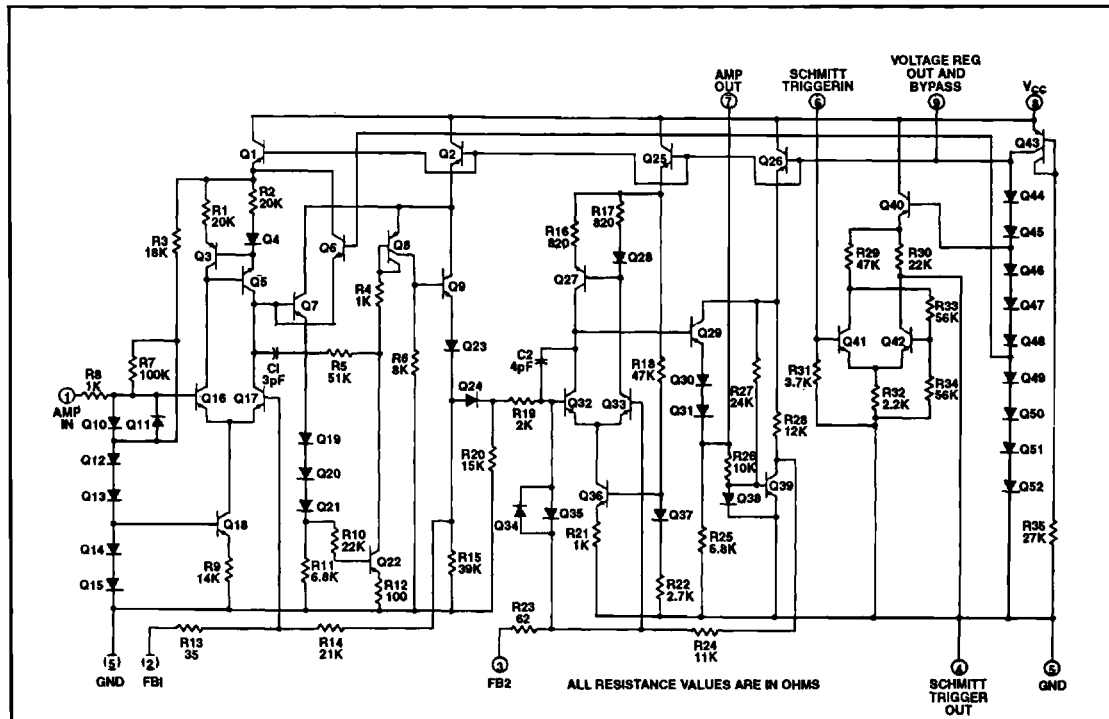
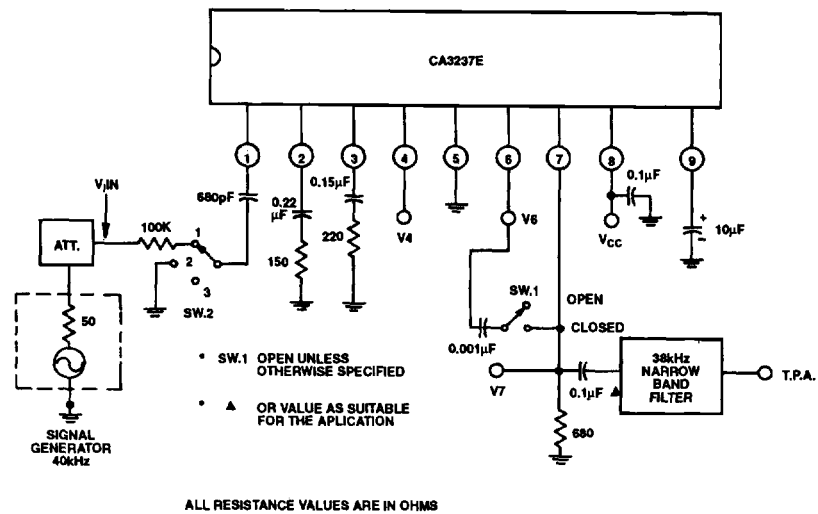

FIGURE 1. SCHEMATIC DIAGRAM FOR CA3237
FIGURE 2. TEST CIRCUIT FOR CA3237
Electrical Specifications $T_A = +25^\circ\text{C}$, $V_{CC} = 12\text{V}$, Unless Otherwise Specified. See Figure 2 for Test Circuit
The CA3237 is intended for use in an infrared (IR) remote-control receiver or other comparable application. As shown in Figure 1, this IC consists of two cascaded amplifiers, a Schmitt-trigger circuit, and an internal 6.3-volt regulator. The VCC power-supply input may range from 8 to 14 volts.
For the feedback circuit values in the test circuit of Figure 2, the simplified gain equation may be used to calculate the first stage gain as follows:
The worst-case conditions allow for Z_{in} and A_{OL} variations. The gain specification from the Electrical Characteristic table is 0.8V for 500 μ V input. This specification dictates a minimum gain of 1600 (or 64dB) minimum, including input attenuation losses due to the 100-kilohm source resistor. The Figure 2 circuit is specified as a test condition, but is not a limited use of the CA3237. Using circuit layout care and some shielding, it is possible to achieve over 90dB of stable gain.
If the source impedance of the signal source is high compared to the input impedance of the amplifier, there will be a proportional attenuation at the input signal. For the Figure 2 test circuit, the source impedance is 100 kilohm and the input loss is typically 9dB.
The output drive signal from the second amplifier (at pin 7) is from the emitter follower Q29 and series Q30 and Q31, shown in Figure 1. As shown in the test circuit of Figure 2, it is possible to stiffen the source impedance by additional dc loading at pin 7. It is recommended that the output load be greater than 500 Ω .
The amplifiers are designed to provide signal limiting over a wide dynamic range with little effect on the duty cycle. In the IC circuit diagram of Figure 1, the Q10 and Q11 back-to-back diodes limit the peak-to-peak drive; additional control is provided by the Q6 emitter at the output of the first differential stage. Limiting starts as low as 50 μ V. The limiting range continues to a level greater than 1 volt of signal-input capability with typically less than 10% change in duty cycle.
It is important to note that the Schmitt trigger input has 3.7 kilohm input impedance but drops to a much lower value when the input transistor switches to saturation. The low impedance provides noise immunity during the low (OFF) state. In Figure 1, transistor Q41 and Q42 form the differential switching circuit. The threshold for switching at pin 6 is approximately 1 volt (ON) and 0.8 volt (OFF). The bias supply for the switching differential is determined by the internally regulated supply, which is tapped at 4.2 volts on the stack of reference diodes.